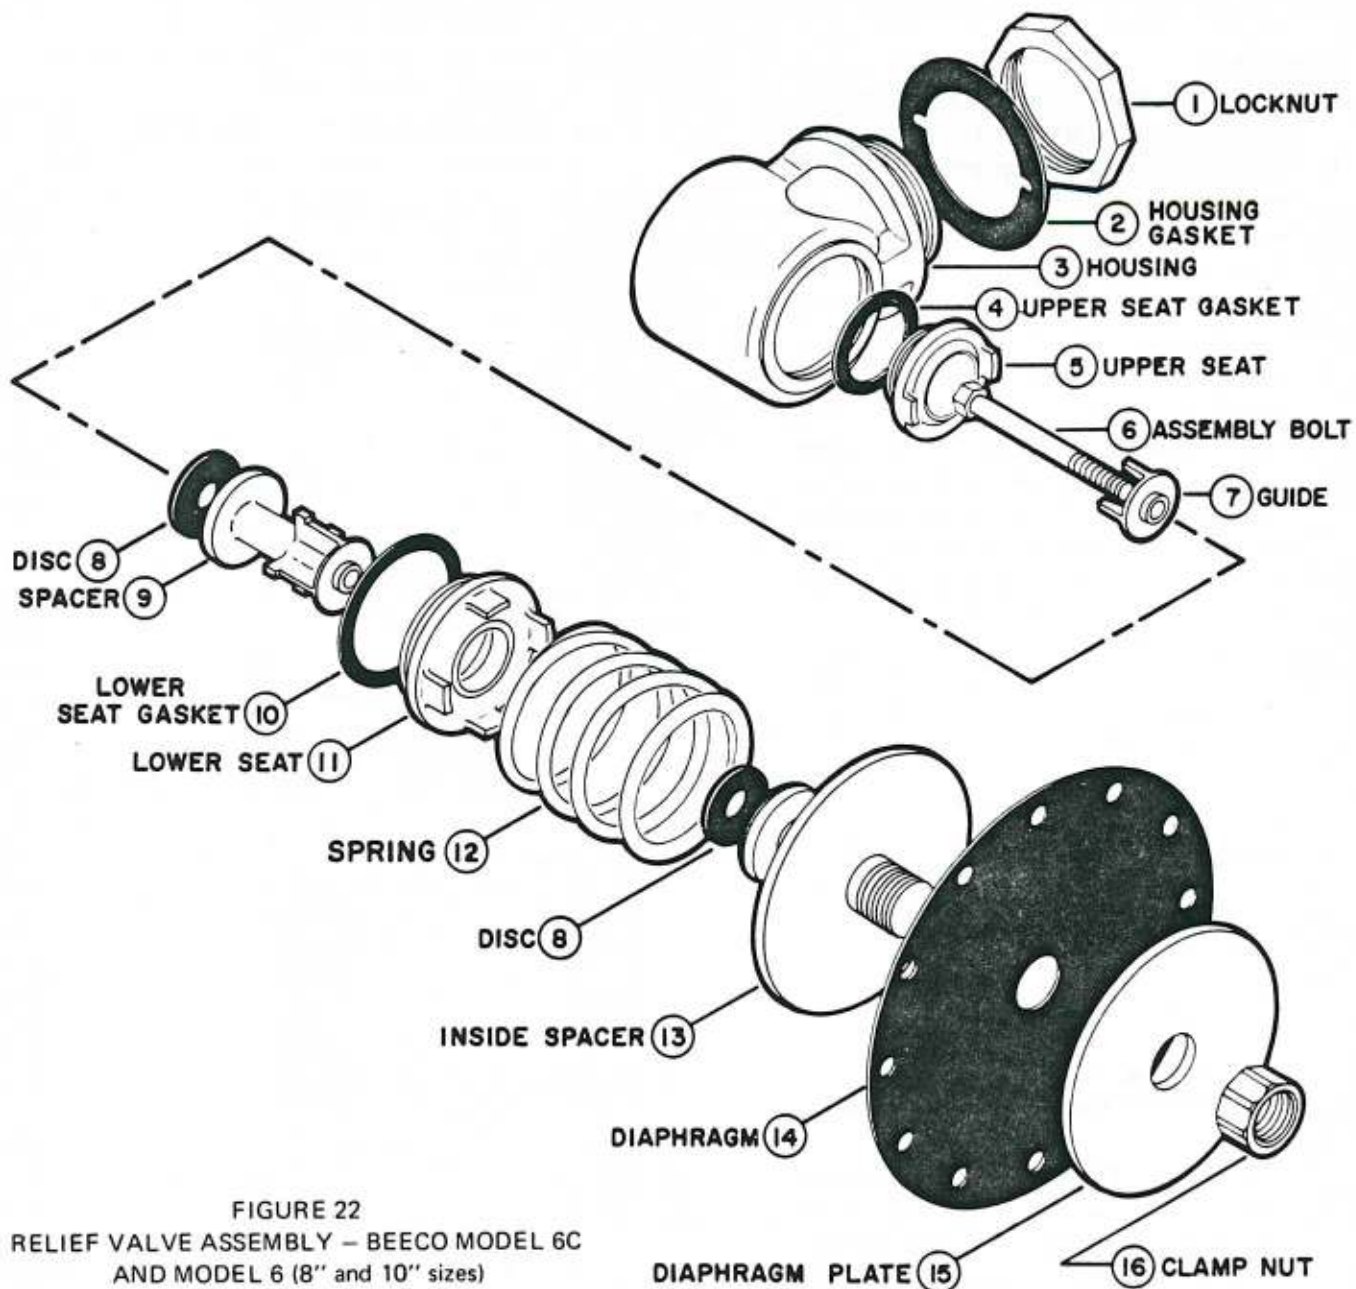

FIGURE 22
G. REPAIR OF RELIEF VALVES – 8" AND 10" SIZES (see Fig. 22).